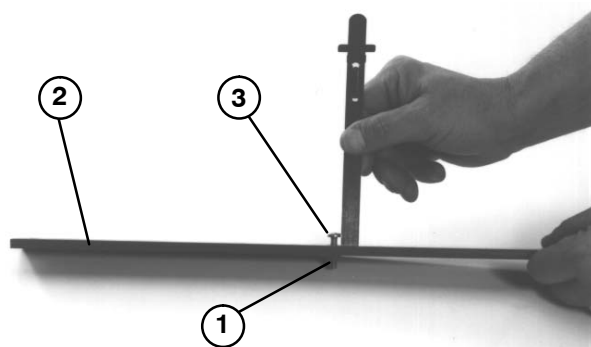

Figure 18
5. Loosen nut on gauge bar and set adjusting screw to desired height-of-cut. Distance between bottom of screw head and face of bar is height-of-cut (Fig. 18). Tighten nut on gauge bar.